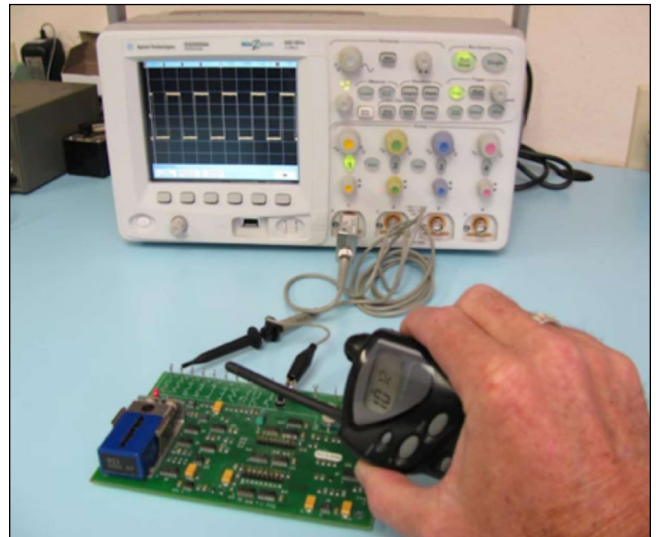

Figure 4: Using a license-free transmitter to force a failure.
**Handheld Radio** — For radiated immunity, we generally start outside the EUT and use license-free handheld transmitters, such as the Family Radio Service (FRS) walkie-talkies (or equivalent) to determine areas of weakness. By holding these low power radios close to the product or system under test, you can often force a failure (Figure 4).